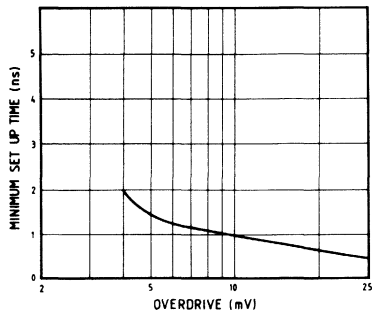

Fig.7 T_s v. overdrive setup time
2. This parameter is defined with $+100$ mV input and -10 mV overdrive, corrected to take account of the comparator offset, i.e. the switching threshold effectively is at $0V$ on the input waveform. The relationship between setup time and overdrive is shown in Fig.7. The test circuit diagram, Fig. 4 indicates a method of performing this test.